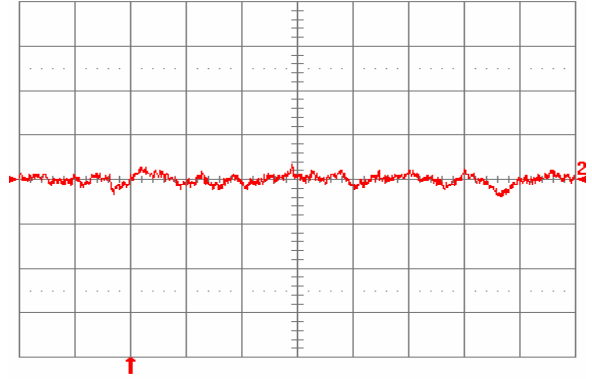

**Fig. 5.0V.14:** Test Setup for measuring input reflected ripple currents,  $i_c$  and  $i_s$ .
**Fig. 5.0V.1:** Available load current vs. ambient air temperature and airflow rates for SQ48T10050 converter with D height pins mounted vertically with  $V_{in} = 48\text{ V}$ , air flowing from pin 3 to pin 1, and maximum FET temperature  $\leq 120\text{ }^\circ\text{C}$ .
**Fig. 5.0V.2:** Available load current vs. ambient air temperature and airflow rates for SQ48T10050 converter with D height pins mounted horizontally with  $V_{in} = 48\text{ V}$ , air flowing from pin 3 to pin 1, and maximum FET temperature  $\leq 120\text{ }^\circ\text{C}$ .
**Fig. 5.0V.3:** Available load current vs. ambient air temperature and airflow rates for SQ48S10050 converter mounted vertically with  $V_{in} = 48\text{ V}$ , air flowing from pin 3 to pin 1, and maximum FET temperature  $\leq 120\text{ }^{\circ}\text{C}$ .
**Fig. 5.0V.4:** Available load current vs. ambient air temperature and airflow rates for SQ48S10050 converter mounted horizontally with  $V_{in} = 48\text{ V}$ , air flowing from pin 3 to pin 1, and maximum FET temperature  $\leq 120\text{ }^{\circ}\text{C}$ .
**Fig. 5.0V.5:** Efficiency vs. load current and input voltage for SQ48T/S10050 converter mounted vertically with air flowing from pin 3 to pin 1 at a rate of 300 LFM (1.5 m/s) and  $T_a = 25\text{ }^{\circ}\text{C}$ .
**Fig. 5.0V.6:** Efficiency vs. load current and ambient temperature for SQ48T/S10050 converter mounted vertically with  $V_{in} = 48\text{ V}$  and air flowing from pin 3 to pin 1 at a rate of 200 LFM (1.0 m/s).
**Fig. 5.0V.7:** Power dissipation vs. load current and input voltage for SQ48T/S10050 converter mounted vertically with air flowing from pin 3 to pin 1 at a rate of 300 LFM (1.5 m/s) and  $T_a = 25\text{ }^\circ\text{C}$ .
**Fig. 5.0V.8:** Power dissipation vs. load current and ambient temperature for SQ48T/S10050 converter mounted vertically with  $V_{in} = 48\text{ V}$  and air flowing from pin 3 to pin 1 at a rate of 200 LFM (1.0 m/s).
**Fig. 5.0V.9:** Turn-on transient at full rated load current (resistive) with no output capacitor at  $V_{in} = 48\text{ V}$ , triggered via ON/OFF pin. Top trace: ON/OFF signal (5 V/div.). Bottom trace: output voltage (2 V/div.). Time scale: 2 ms/div.
**Fig. 5.0V.10:** Turn-on transient at full rated load current (resistive) plus 10,000 µF at  $V_{in} = 48\text{ V}$ , triggered via ON/OFF pin. Top trace: ON/OFF signal (5 V/div.). Bottom trace: output voltage (2 V/div.). Time scale: 2 ms/div.
**Fig. 5.0V.11:** Output voltage response to load current step-change (2.5 A – 5 A – 2.5 A) at  $V_{in} = 48$  V. Top trace: output voltage (200 mV/div.). Bottom trace: load current (2 A/div.). Current slew rate: 0.1 A/ $\mu$ s.  $C_o = 1$   $\mu$ F ceramic. Time scale: 0.2 ms/div.
**Fig. 5.0V.12:** Output voltage response to load current step-change (2.5 A – 5 A – 2.5 A) at  $V_{in} = 48$  V. Top trace: output voltage (200 mV/div.). Bottom trace: load current (2 A/div.). Current slew rate: 5 A/ $\mu$ s.  $C_o = 450$   $\mu$ F tantalum + 1  $\mu$ F ceramic. Time scale: 0.2 ms/div.
**Fig. 5.0V.13:** Output voltage ripple (20 mV/div.) at full rated load current into a resistive load with  $C_o = 10$   $\mu$ F tantalum + 1  $\mu$ F ceramic and  $V_{in} = 48$  V. Time scale: 1  $\mu$ s/div.
**Fig. 5.0V.15:** Input reflected ripple current,  $i_c$  (100 mA/div.), measured at input terminals at full rated load current and  $V_{in} = 48$  V. Refer to Fig. 5.0V.14 for test setup. Time scale: 1  $\mu$ s/div.
**Fig. 5.0V.16:** Input reflected ripple current,  $i_s$  (10 mA/div.), measured through 10  $\mu$ H at the source at full rated load current and  $V_{in} = 48$  V. Refer to Fig. 5.0V.14 for test setup. Time scale: 1  $\mu$ s/div.
**Fig. 5.0V.17:** Output voltage vs. load current showing current limit point and converter shutdown point. Input voltage has almost no effect on current limit characteristic.
**Fig. 5.0V.18:** Load current (top trace, 10 A/div., 20 ms/div.) into a 10  $m\Omega$  short circuit during restart, at  $V_{in} = 48$  V. Bottom trace (10 A/div., 1 ms/div.) is an expansion of the on-time portion of the top trace.